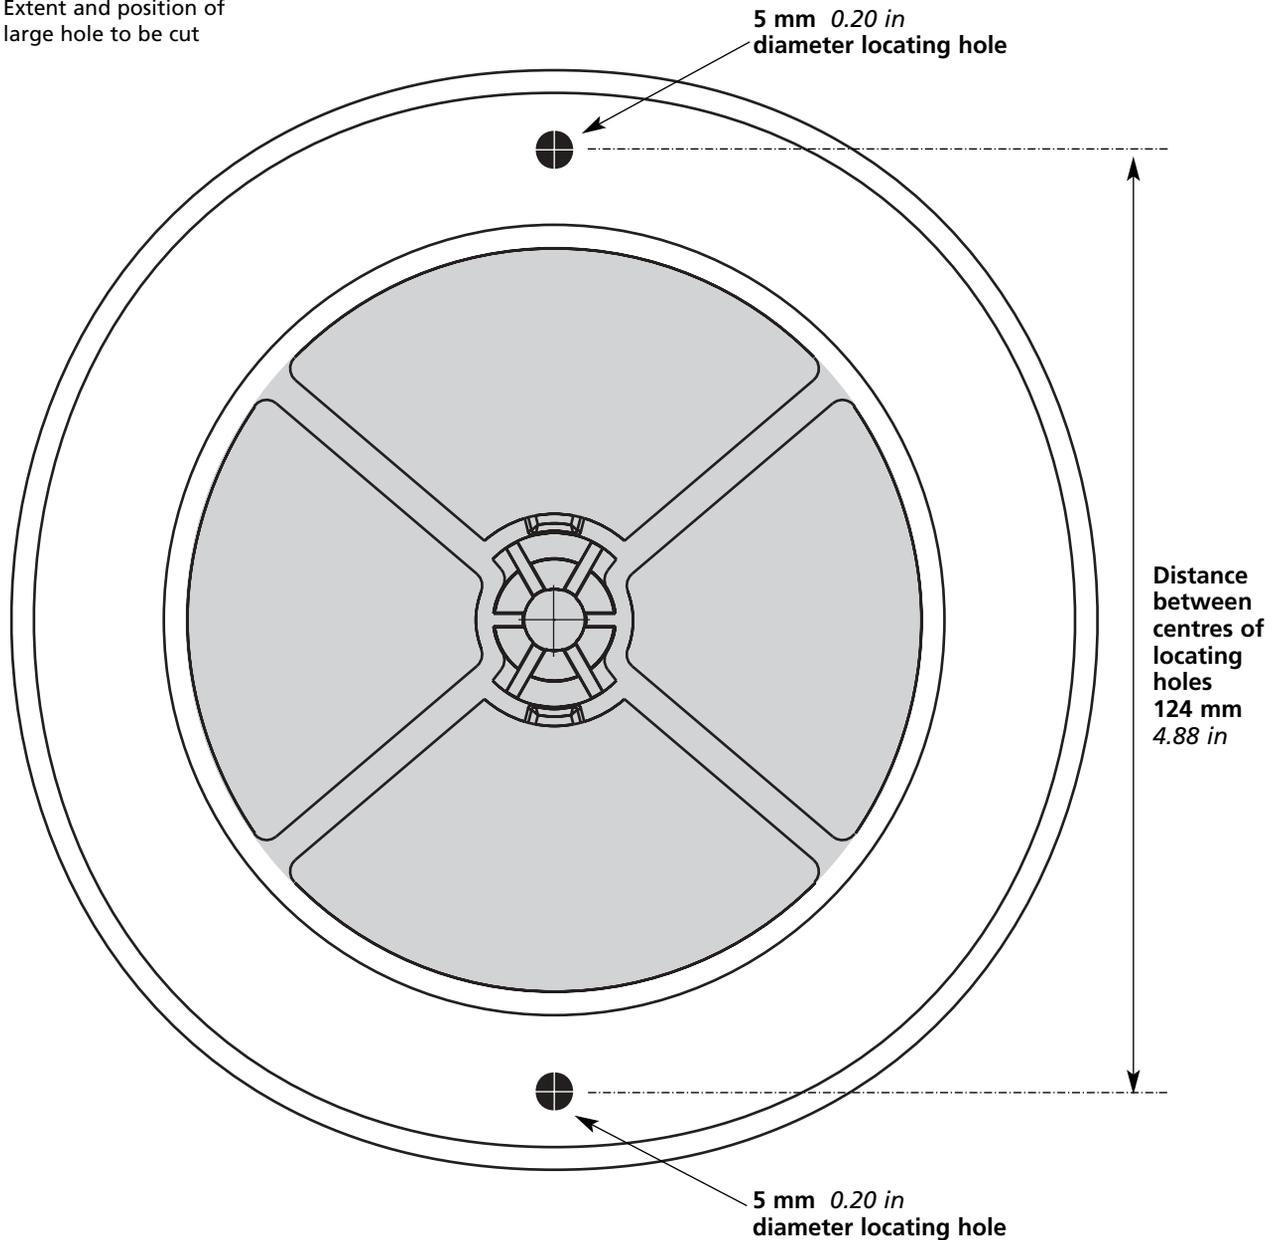

Figure 3 – Actual Size Template for Narrow Flettner TCX™ Base
- Cut the large hole – either a Ø98.0mm (Ø3.86") circular hole or an oval hole as shown in **Figure 3**, depending on the type of base. Remove any burr from the cut edges.